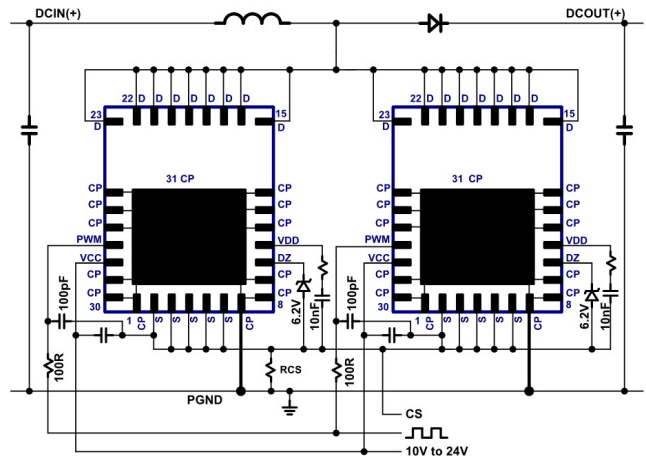

Fig. 25. Boost schematic using two parallel ICs
For some applications it is desirable to parallel ICs in order to reduce conduction losses and temperatures. Two NV6125 ICs can be connected in parallel in a PFC boost application working in boundary-conduction mode (BCM) only. The parallel configuration for two NV6125 ICs is shown in Fig. 25. The paired pins that are connected together include the drain pins (D), the source pins (S), the VCC pins, the PWM pins, and the Dz. A single Dz diode can be shared by both ICs. The VDD pins are not connected together and require separate VDD supply capacitors (C_{VDD1} , C_{VDD2}) and separate turn-on current set resistors (R_{DD1} , R_{DD2}). Each IC should have its own local VCC supply filter capacitor (C_{VCC1} , C_{VCC2}). The PWM pins can have a single filter resistor (R_{PWM}) but separate filter capacitors (C_{PWM1} , C_{PWM2}) should be placed at the PWM pin of each IC. When designing the PCB layout for the two paralleled ICs, the drain and source connections should be made as symmetrical as possible two avoid any parasitic inductance or capacitance mismatch.